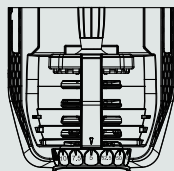

Figure 1
- The weight increment range of the two adjustment knobs is from 5 to 52.5 pounds. To correctly select the desired weight, the number must align with the arrow indicated on the nameplate (Figure 1).